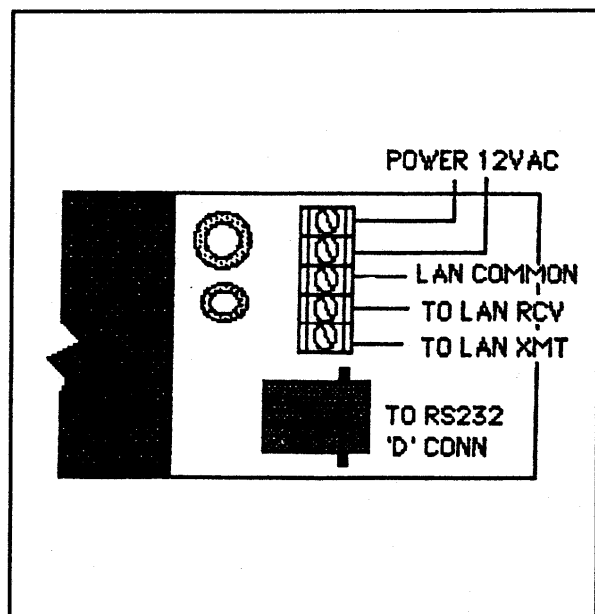

Fig. 2, Terminations / Wiring
2. Connect an isolated 12VAC supply voltage or use enclosed XFM-1 plug in transformer. Wire the 12VAC wires to the 2 terminals on the 5-position terminal strip furthest from the RJ-11 jack. Make sure the wires are screwed in tight and that strands are not accidentally touching other terminals. DO NOT plug in the XFM-1 until all wiring is completed. Refer to figure 2 for terminal designations.